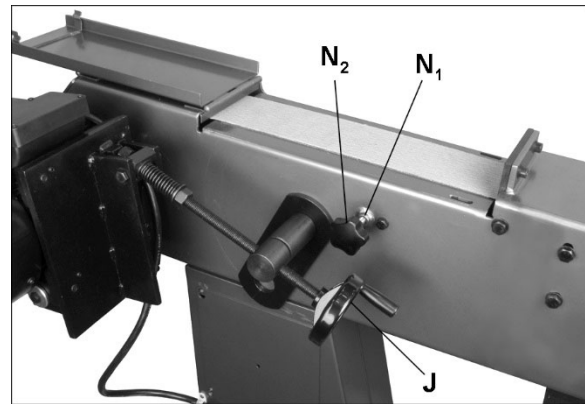

Figure 7-3
3. Remove tension from belt by rotating handwheel (J, Figure 7-3) counterclockwise.
4. Tension belt with handwheel (J).
2. Remove tension from abrasive belt (J, Figure 7-3).
1. Loosen hex nut (N₁, Figure 7-3) counterclockwise.